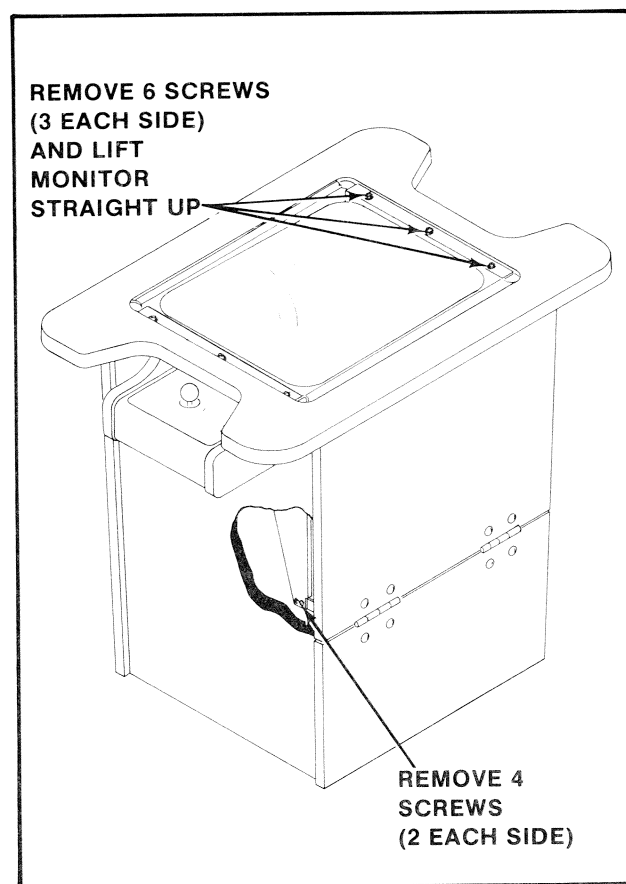

Figure 18 Removing monitor — Cocktail game
3. COCKTAIL TABLE MODEL: See Figure 18.
- Remove the screws holding the T.V. monitor chassis to the "L" by the door hinge(s). See Figure 18.
- Remove the screws which secure the T.V. monitor mounting brackets to the edges of the slot cut in the table top. See Figure 18.